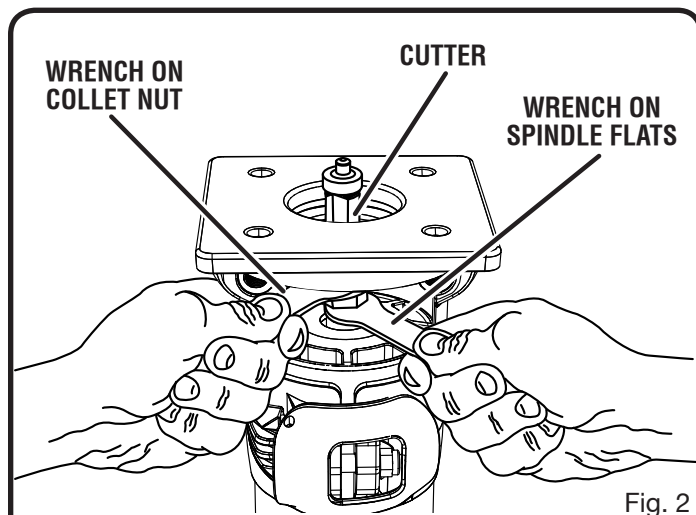

Fig. 2
See Figure 2.
- Place the larger end of the other wrench provided onto the collet nut. Rotate the wrench counterclockwise to loosen the collet nut as shown in figure 2.
- Tighten the collet nut securely by turning clockwise with the wrench provided as shown in figure 2.